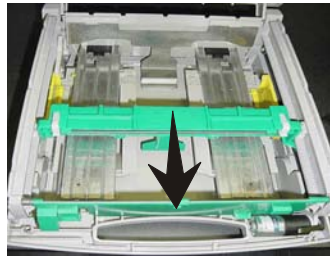

Figure 4-9. Lid open and pusher plate back.
2. Move the pusher plate to the rear of the cassette (toward the handle). Ensure the pusher plate is fully back. It should stay in this position. (Figure 4-9)